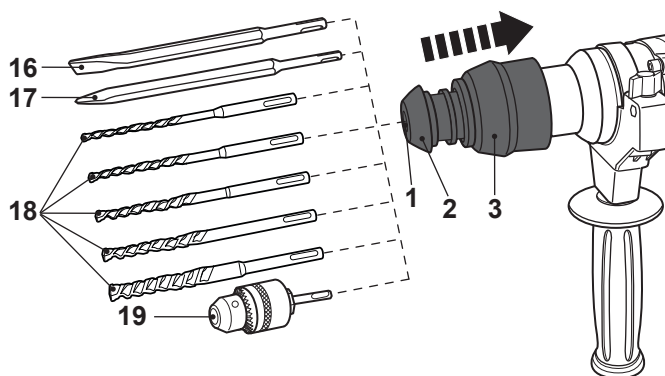

Fig. 1
- > Pull the chuck sleeve (3) back and hold it in position.
- > Insert the SDS drill bit / chisel with a twist motion all the way to the stop into the chuck (1) (Fig. 1).